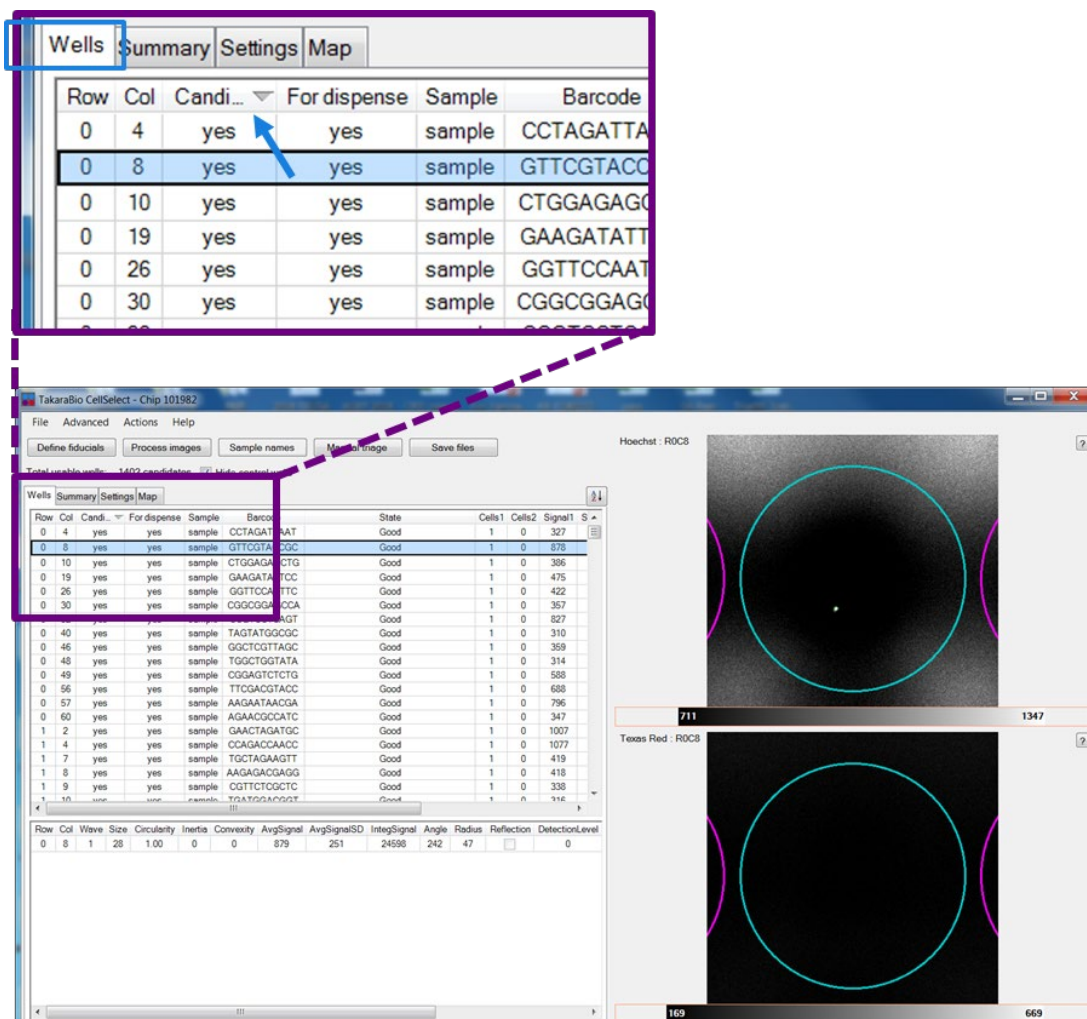

Figure 32. Sorting the candidate column to consolidate all selected nanowells to the top of the table.
- Click the *Wells* tab and sort the nanowell statistics in the "Candidate" column by clicking the **Candidate** heading (see Figure 32, below). The software will sort and consolidate all selected nanowells (i.e., "candidates") to the top of the table.
- If desired, manually inspect the selected nanowells. Click any row for closeup views of the selected nanowell in both the Hoechst and Texas Red channels (top and bottom single-well images, respectively, in Figure 32, above).